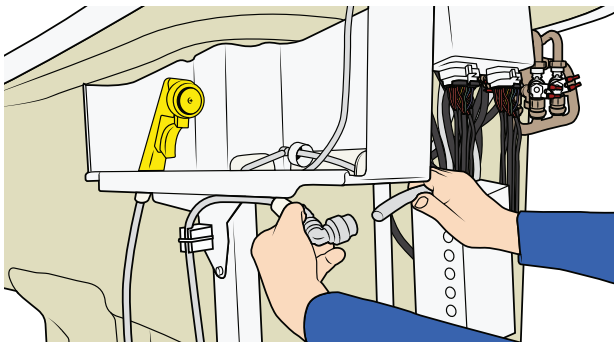

Figure 87
26. Attach the push fitting. See Figure 87.